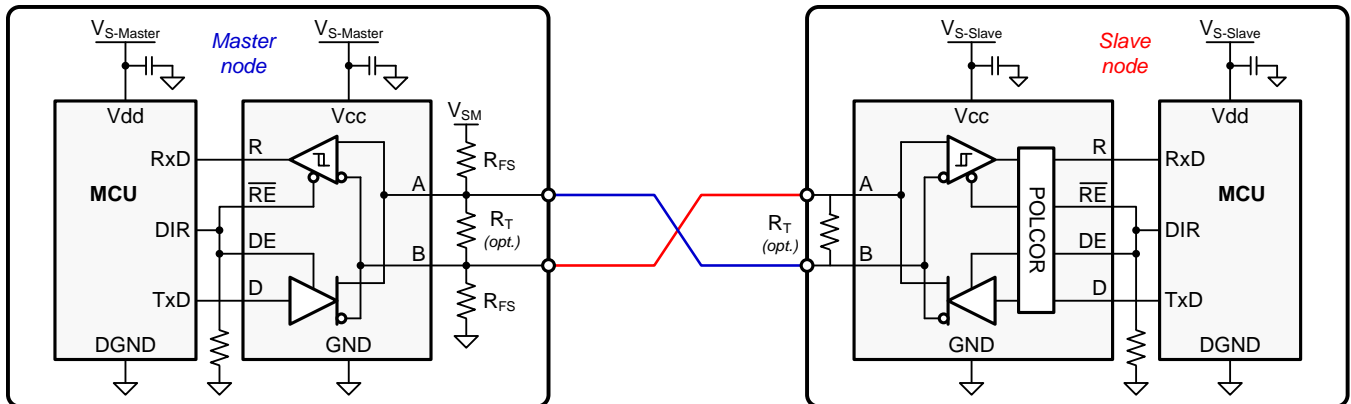

Figure 13. Point-To-Point Data Link With Cross-Wire Fault
**Figure 13** shows a simple point-to-point data link between a master node and a slave node. Because the master node with the failsafe biasing network determines the signal polarity on the bus, an RS-485 transceiver without polarity correction, such as SN65HVD82, suffices. All other bus nodes, typically performing as slaves, require the SN65HVD888 transceiver with polarity correction.